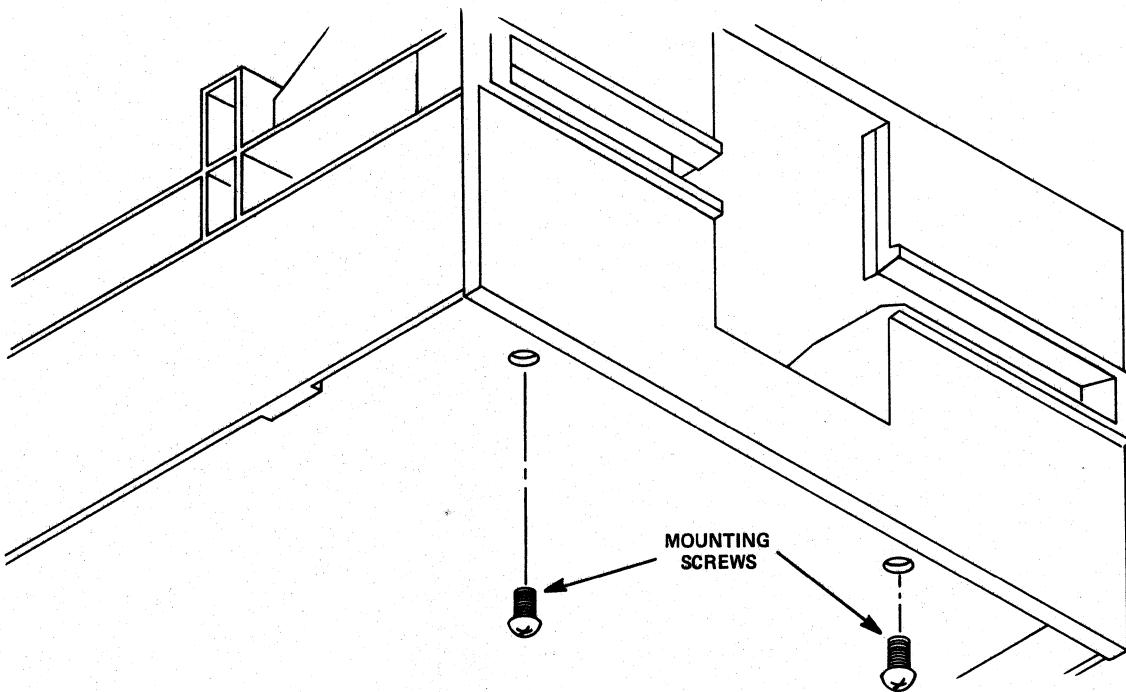

Figure 5-13
- 5.7.5** With a Phillips screwdriver, remove the two (2) mounting screws that attach the front panel to the chassis (see Figure 5-13).
5.7.8 After upending the disk drive, using a Phillips screwdriver, reinstall the two (2) mounting screws that attach the front panel to the chassis (see Figure 5-13).
5.8.3 With a Phillips screwdriver, remove the two (2) mounting screws located near the front of the disk drive, underneath the chassis, that attach the front panel to the chassis (see Figure 5-13).